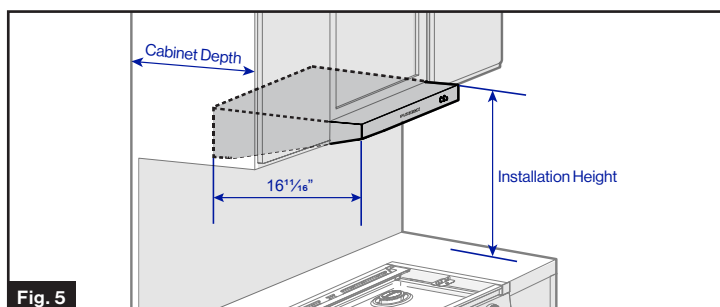

Fig. 5
- For non Furrion branded cooktops and range ovens, refer to Fig. 5 for the installation requirements. Ensure that the installation is performed by a qualified technician and is in compliance with NFPA 1192 section 5.6.6.5.